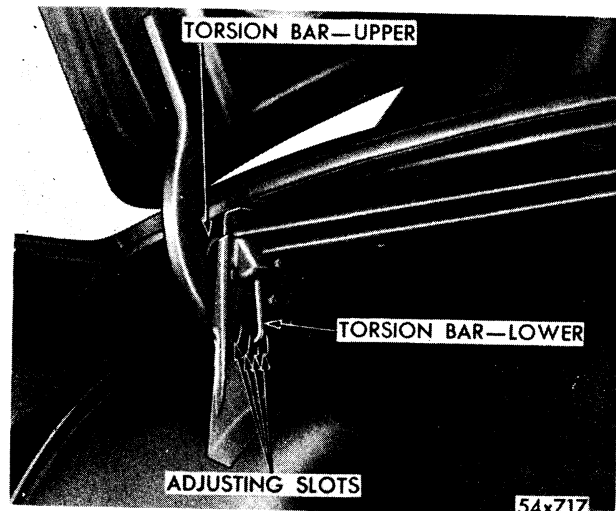

Fig. 19—Torsion Bar Adjusting Slots
a. Adjustment and Replacement of Torsion Bars (Fig. 19)
To replace a torsion bar (Fig. 19), prop open the deck lid and disengage the bars from adjusting slots with Tool C-3445 (Fig. 20). Be extremely careful when removing torsion bars as the tension will cause them to unwind suddenly. Slide bars out of center support bracket and then in opposite direction to disengage roller from hinge. Disengage rod from support bracket and remove from car.